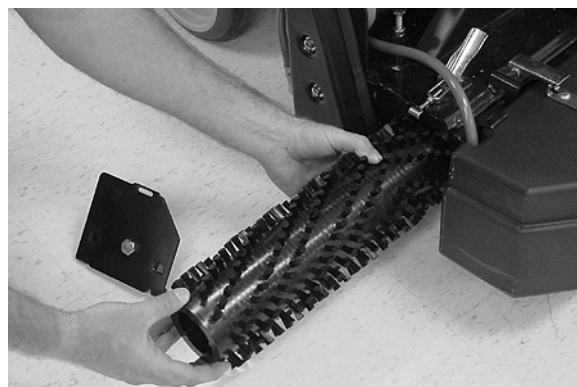

FIG. 35
4. Remove any entangled carpet fibers and debris from the brushes (Figure 35). Replace brushes if worn. To determine when to replace worn brushes observe the brush pressure meter.